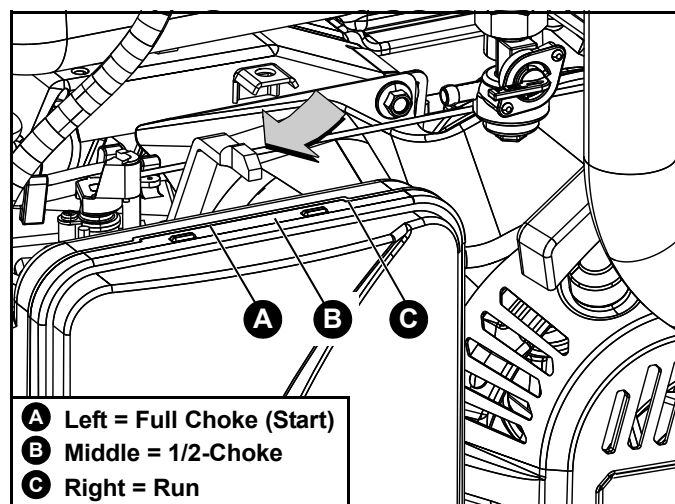

Figure 3-12. Choke Lever Positions
5. Move engine CHOKE lever left to the FULL CHOKE position. See Figure 3-12.
4. Move engine CHOKE lever left to the FULL CHOKE position. See Figure 3-12.